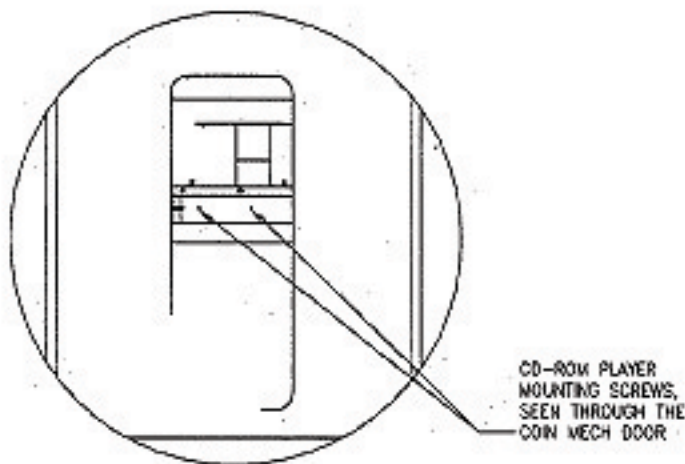

FIGURE 5 - REAR-ACCESS UR
2. Open the coin mech door and locate the two screws securing the CD player to the metalwork (see Figure 5 for screw locations). Remove both screws.